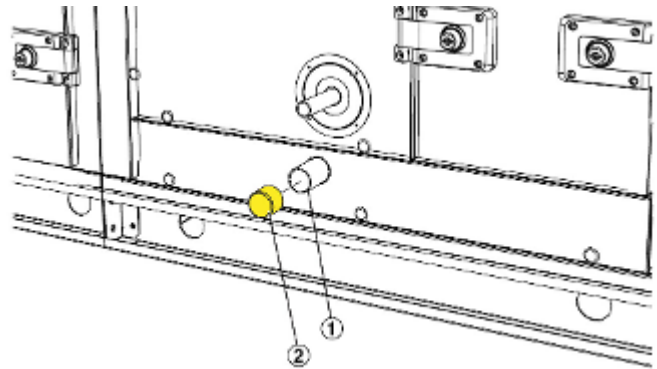

Fig. 28: Condensate drain
- 2 ▶ Remove the protective cap(s) (Fig. 28 /2) from the drain (Fig. 28 /1) of the condensate drip tray.
- 4 ▶ Connect the drain traps to the condensate drains (Fig. 28 /1).